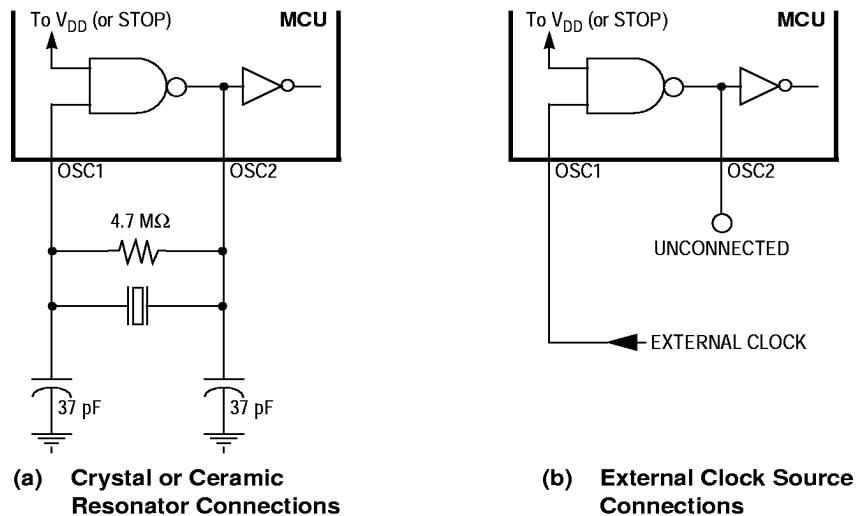

Figure 1-2. Oscillator Connections
1. A crystal as shown in **Figure 1-2(a)**
2. A ceramic resonator as shown in **Figure 1-2(a)**
3. An external clock signal as shown in **Figure 1-2(b)**
The circuit in **Figure 1-2(a)** shows a typical oscillator circuit for an AT-cut, parallel resonant crystal. Follow the crystal manufacturer's recommendations, as the crystal parameters determine the external component values required to provide maximum stability and reliable startup. The load capacitance values used in the oscillator circuit design should include all stray capacitances. Mount the crystal and components as close as possible to the pins for startup stabilization and to minimize output distortion.
In cost-sensitive applications, use a ceramic resonator in place of a crystal. Use the circuit in **Figure 1-2(a)** for a ceramic resonator and follow the resonator manufacturer's recommendations, as the resonator parameters determine the external component values required for maximum stability and reliable starting. The load capacitance values used in the oscillator circuit design should include all stray capacitances. Mount the resonator and components as close as possible to the pins for startup stabilization and to minimize output distortion.
An external clock from another CMOS-compatible device can be connected to the OSC1 input, with the OSC2 input not connected, as shown in **Figure 1-2(b)**.